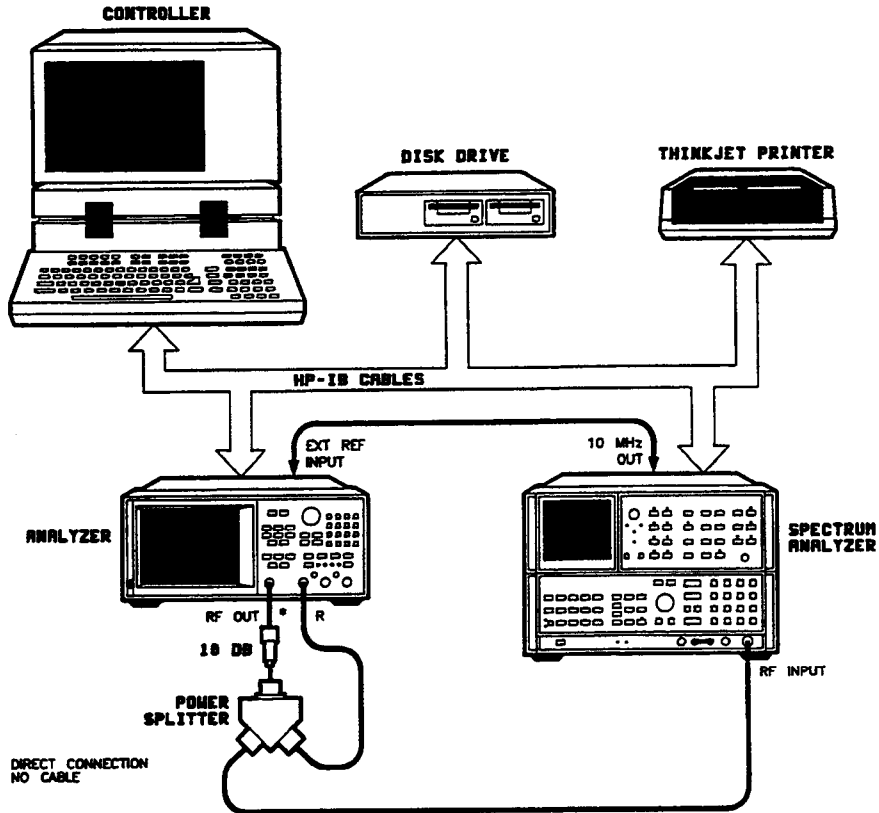

Figure 11. Fractional-N Spur Avoidance and FM Sideband Adjustment Setup
1. Connect the equipment as shown in Figure 11.